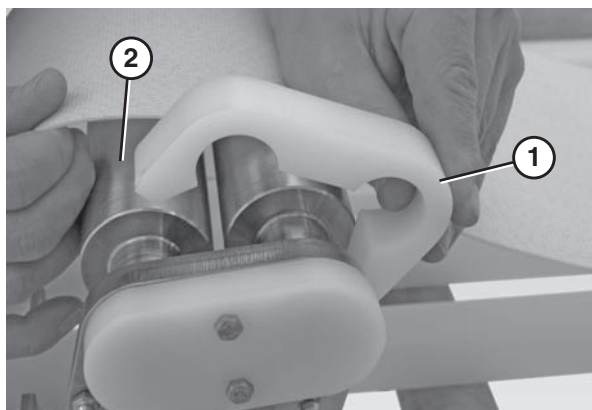

Figure 81
1. Slide the pinch guard blocks (**Figure 81, item 1**) off the nose bar spindles (**Figure 81, item 2**).